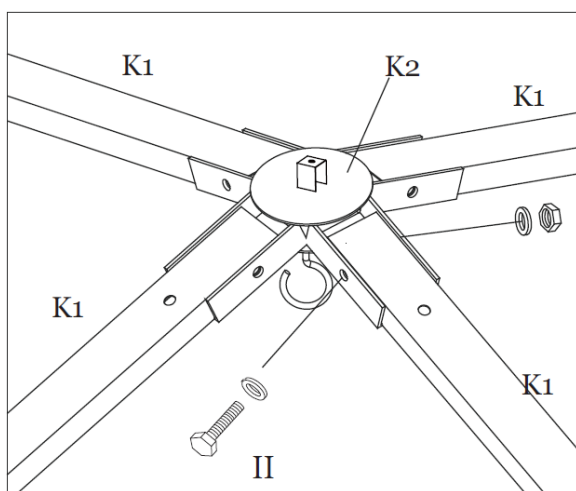

Figure 7-2
Step 7B: Assemble Roof Vent Frame by attaching Roof Vent Corner Support (K1) to Roof Vent Connector (K2) with Bolts (II). See Figure 7-2.